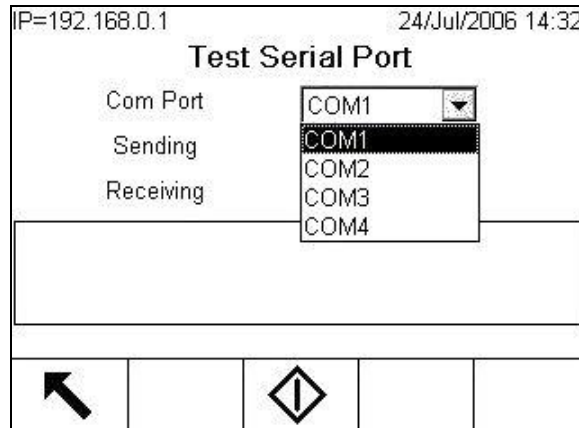

Figure 4-24: Serial Test Setup Screen
- Serial Test—Enables testing of the transmit and receive functions on the serial (COM) ports. Select the COM port to be tested using the selection box for Com Port (Figure 4-24). Only those ports installed are available for testing.